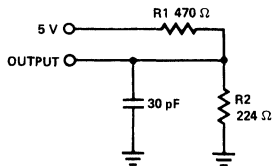

Figure 1a
7. Test conditions assume signal transition times of 5 ns or less for the -15 product and 10 ns or less for the -25 and -35 product. Timing reference levels of 1.5V and output loading of the specified IOL/IOH and 30 pF load capacitance as in *Figure 1a*.